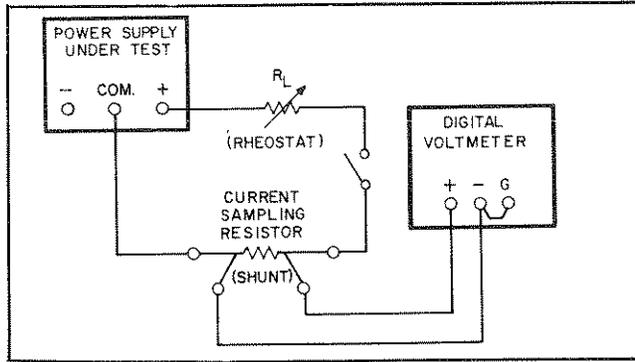

Figure 5-3. Output Current, Test Setup
g. Connect the test setup shown in Figure 5-3 to the +6V (or +18V) output. Make the total resistance of R_L and the current sampling resistor 2.4 ohms for the Model 6236B (or 18 ohms for the 6237B) to permit operating the output at full load. R_L should have a power rating of at least 20 watts.
k. Check the rated output and ammeter accuracy of the +20V and -20V supplies similarly by connecting the test setup of Figure 5-3 to each output in turn. For each 20V supply: make the total resistance of R_L and the current sampling resistor 40 ohms, set the $\pm 20\text{V}$ VOLTAGE control for a current indication on the DVM of 0.5A, check that
m. Connect the test setup shown in Figure 5-3 to the +20-volt output. Substitute a short for R_L and leave the load circuit switch open.
r. (Steps (r) through (t) apply to the 6236B only.) Connect the test setup shown in Figure 5-3 to the +6V output. Close the switch, set the total resistance of R_L and the current sampling resistor to an initial value of 2.4 ohms or greater, and set the output voltage to 6 volts.